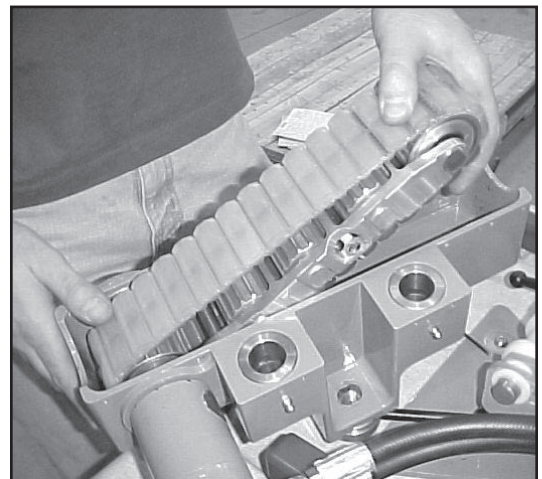

Figure 19
5. Rotate track into housing (Figure 19)